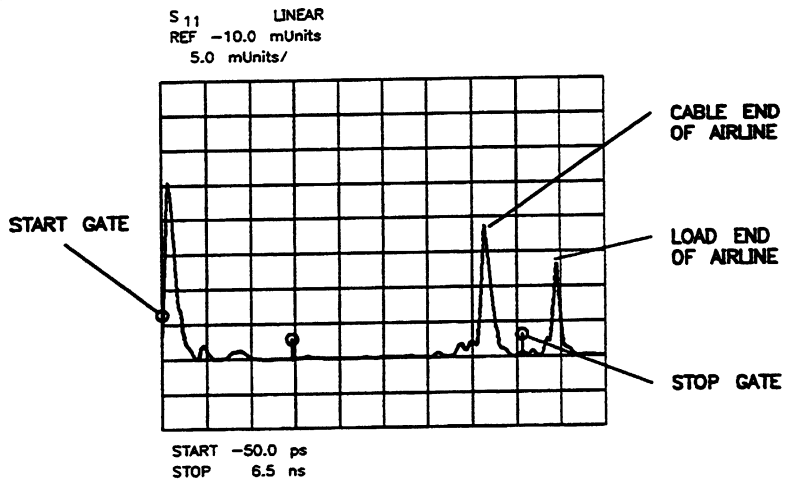

Figure 3-2. Location of the Gates and the Airline
- vii. To activate the stop gate, select **SPECIFY GATE STOP**, and use the RPG knob to adjust the stop gate to the center of the airline (see Figure 3-2).